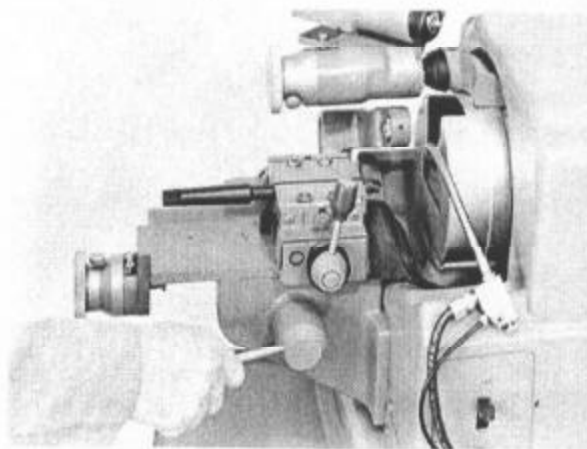

Figure 5.
7. Retract the slide with the rapid advance lever until the radial locator swings to its retracted position. (See Figure 5.)